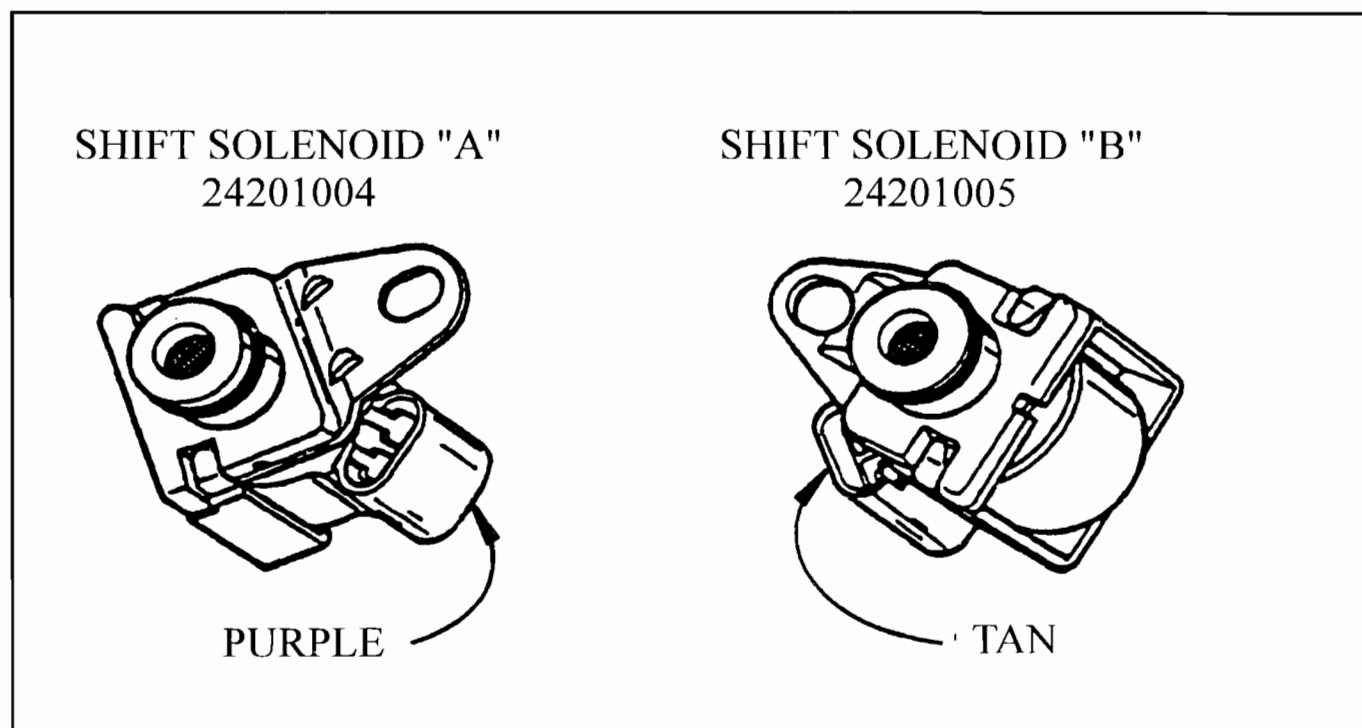

Figure 36
- (1) SHIFT SOLENOID "A" - Revised internal seal material, and is now PURPLE in color, instead of the previous Gray (See Figure 36).
- (2) SHIFT SOLENOID "B" - Revised internal seal material, and is now TAN in color, instead of the previous Green (See Figure 36).